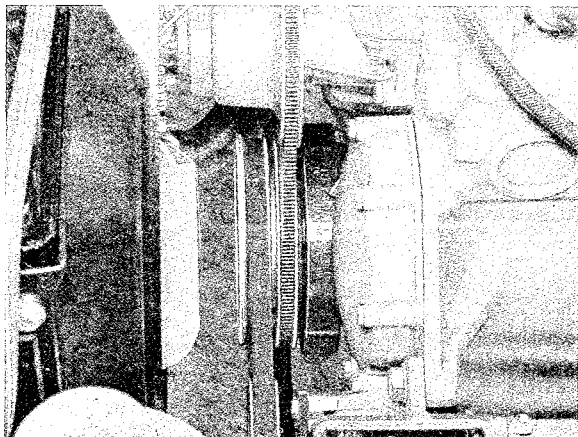

Fig. 3-83. Flywheel damper with graduation for ignition setting
1. Clean the flywheel damper so that the graduation marks are visible, see Fig. 3-83.